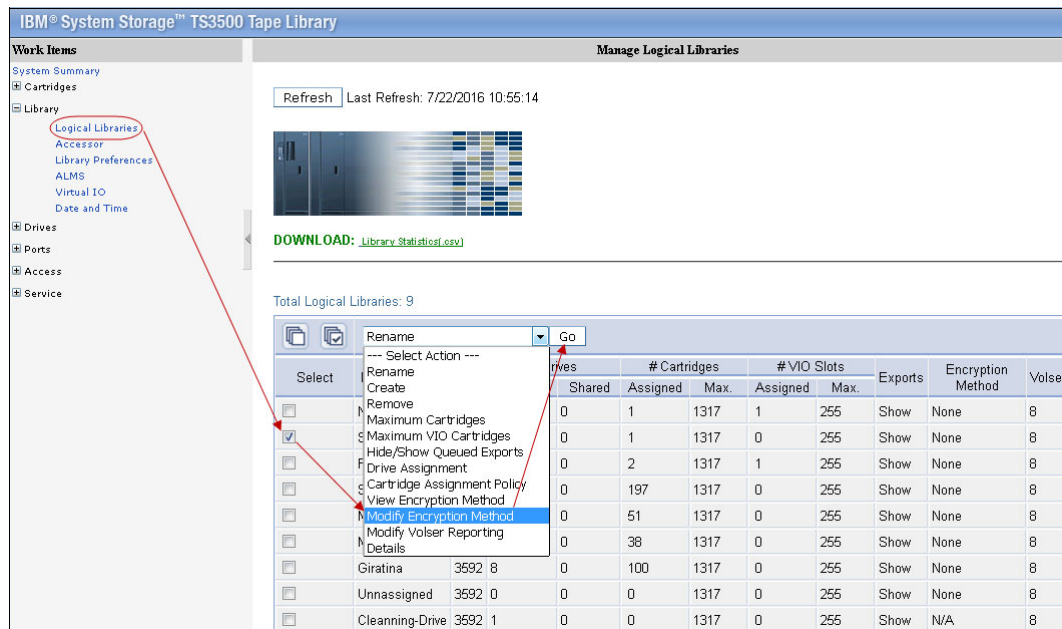

Figure 9-93 Select the encryption method
- In the TS3500 MI, click **Library** → **Logical Libraries**, select the logical library with which you are working, select **Modify Encryption Method**, and then click **Go**. See Figure 9-93.